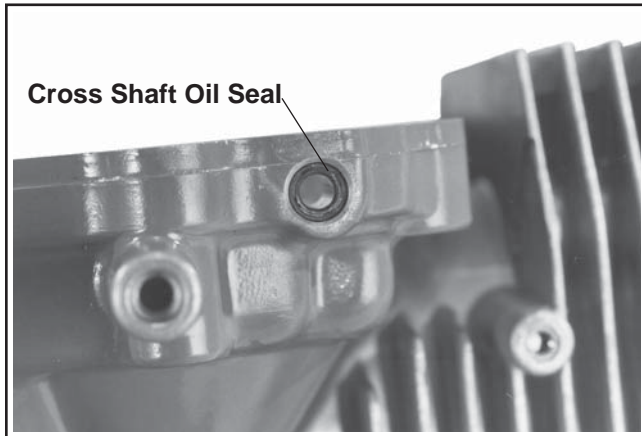

Figure 11-2. Cross Shaft Oil Seal.
- Using the KO1030 oil seal installer, install a new governor cross shaft oil seal into the crankcase. See Figure 11-2.